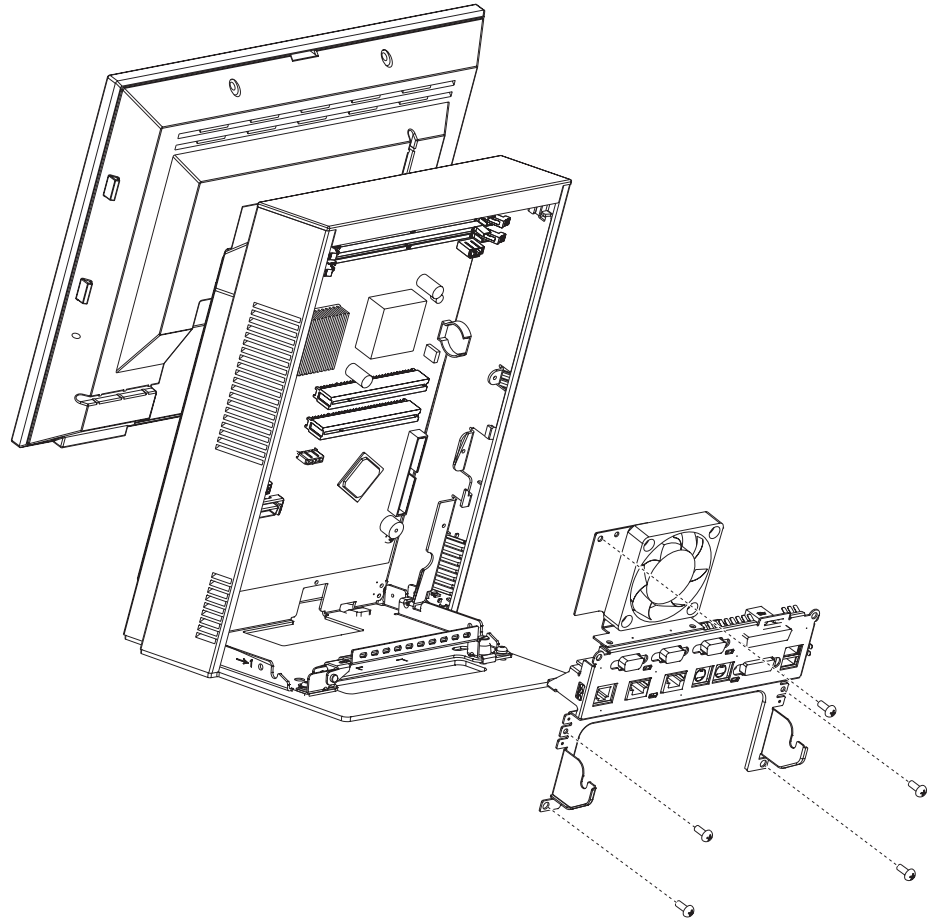

Figure 50. Tailgate remove and replace. This figure shows the screws removed for illustration purposes only.
5. See Figure 50. Loosen the five screws, but **do not remove** them.